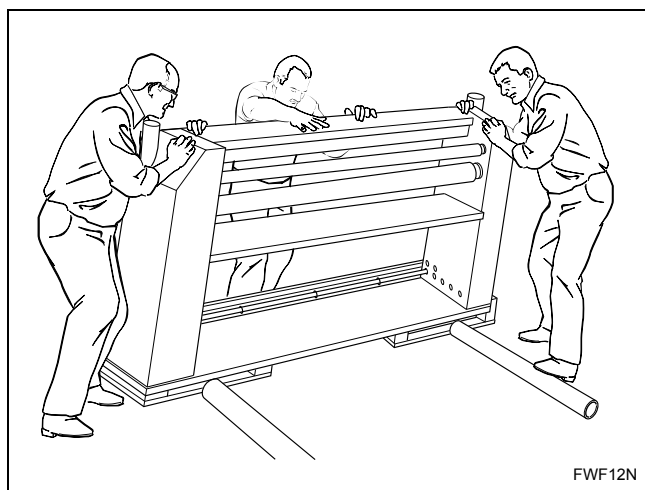

Figure 6
5. Place two rollers on the ground next to the finisher. Refer to *Figure 6*.
7. Slowly lower the finisher off the skid and onto the first two rollers, exercising care to keep the unit level. Refer to *Figure 6*.